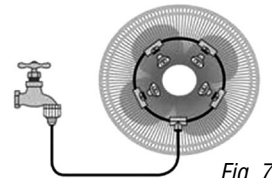

Fig. 7
2. Attach the misting hose valve to a faucet (Fig. 7).